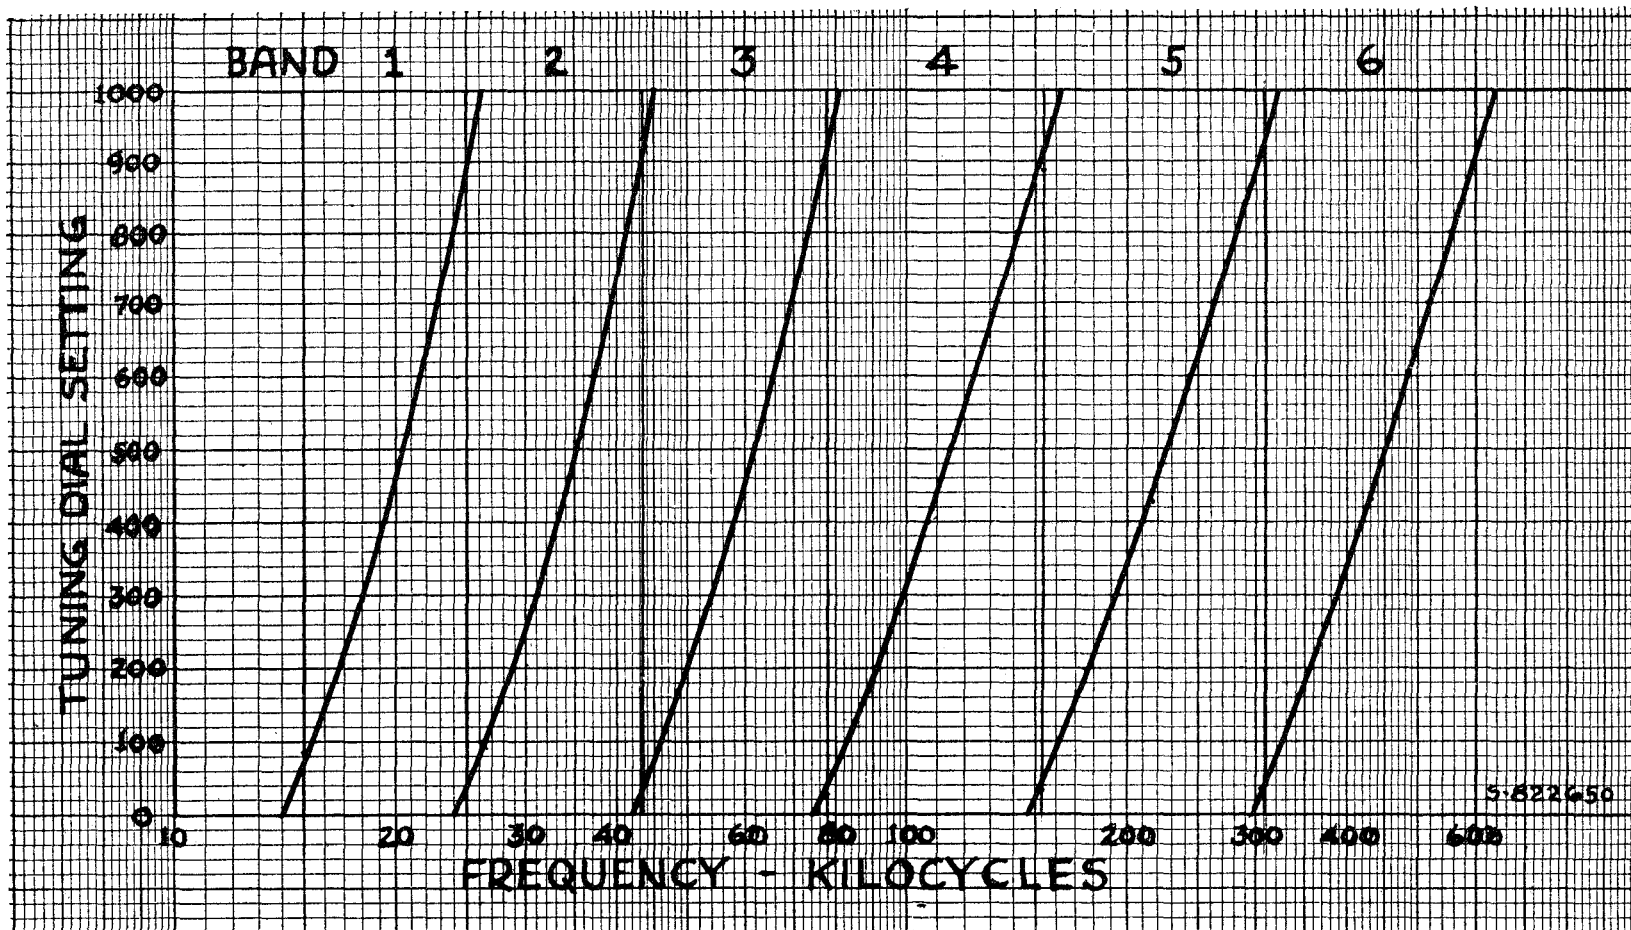

Figure 12—Average Frequency Calibration Curves
11.4-1 Figure 12 shows average frequency calibration curves and band coverage of this equipment. Table B shows the nominal frequency range of each band.